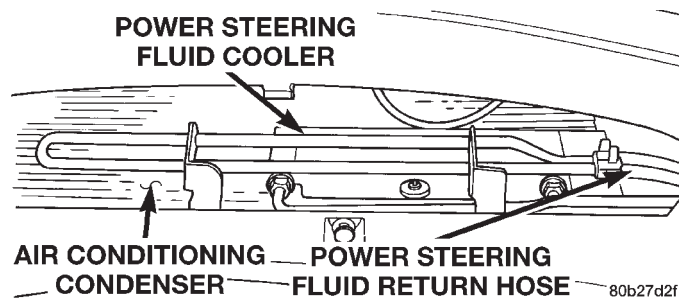
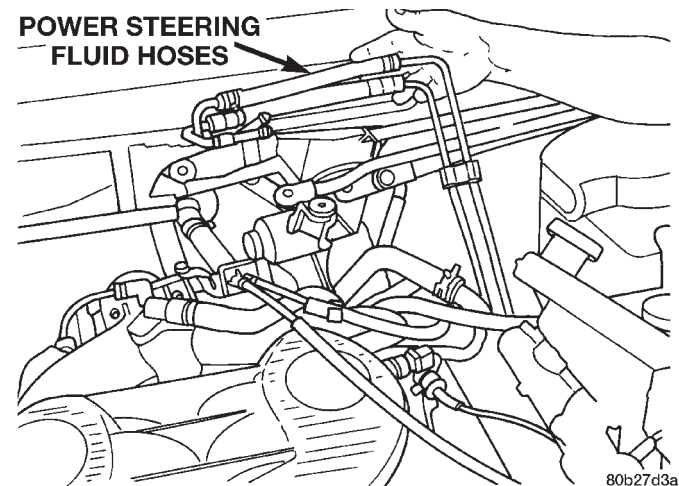

Fig. 30 Power Steering Return Hose At Cooler
Fig. 31 Power Steering Hose Removal/Installation
(22) Raise vehicle.
(23) 300M only — The front fascia will require removal to access the power steering cooler. See Frames and Bumpers, Group 13, in this service manual for required procedure.
(24) Remove the power steering fluid return hose from the power steering fluid cooler (Fig. 30). Let the remaining power steering fluid drain out of the return hose and the power steering fluid cooler.
(25) Lower the vehicle.
(26) Remove the power steering fluid hoses from the vehicle. The power steering fluid hoses are removable from the back of the engine compartment (Fig. 31).
(3) Install the power steering fluid return hose on the power steering fluid cooler (Fig. 30). **Be sure the hose clamp is installed past the upset bead on the power steering fluid cooler.**
(4) 300M only — Reinstall front fascia.
(5) Lower the vehicle until the tires are just clear of the floor.